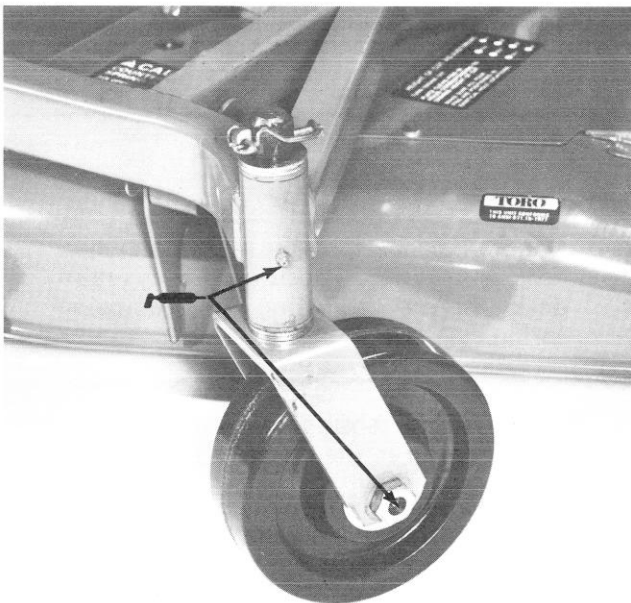
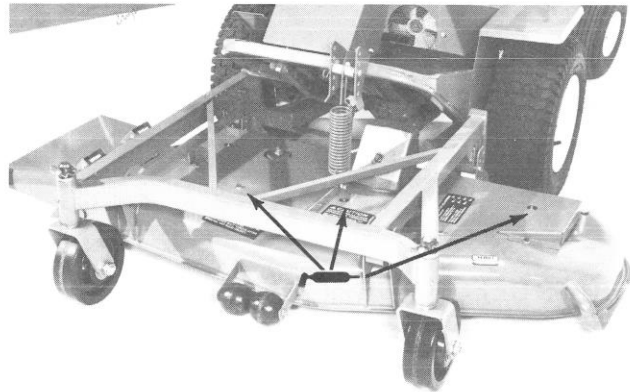

Figure 17
Figure 18
1. The cutting unit has bearings and bushings that must be lubricated, and these lubrication points are: caster spindle bushings (Fig. 17); castor wheel bearings (Fig. 17); blade spindle bearings (Fig. 18) and cutting unit frame pivot bushings (Fig. 20).